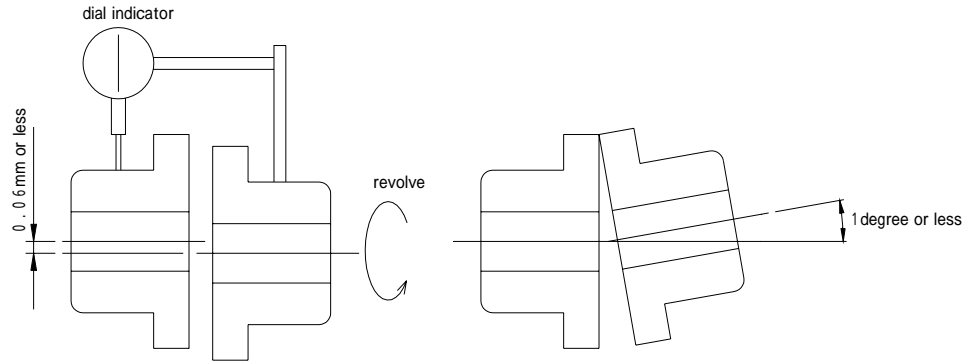

Fig.1 Alignment of pump shaft and driving shaft.
b) Carefully make the alignment of both shafts , and see Fig.1.